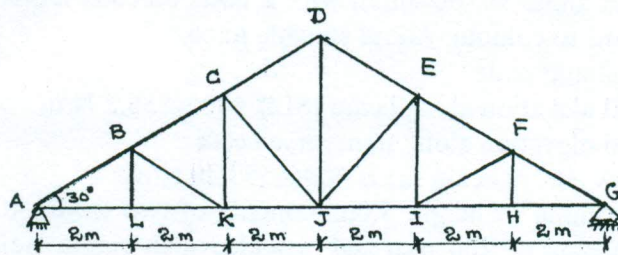

Fig.Q3
- 3 Line diagram of a Howe truss with tabulation of member forces are shown in Fig.Q3. Design various member of roof truss along with their end connections with gusset plate of 10 mm thick, by using M16 bolts of grade 4.60. The truss rests on 300mm × 500mm size column made of M20 grade concrete. Design the support bearing plate, base plate for a reaction of 120 kN and anchor bolts for an uplift force of 18 kN. (40 Marks)